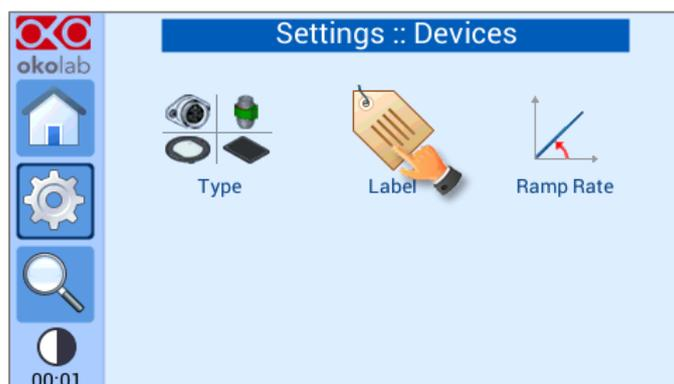

Figure 27. How to attribute a label to a device
- 1 Press on the Label icon , see Figure 27.